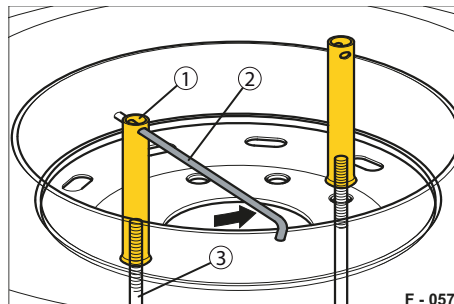

Fig. 76 Releasing the tube nuts
- ▶ Remove the tommy bar (Fig. 76/2).
- ▶ Unscrew the tube nuts (Fig. 76/1). Use the tommy bar as a lever and hold the hook bolt (Fig. 76/3) firmly in place.